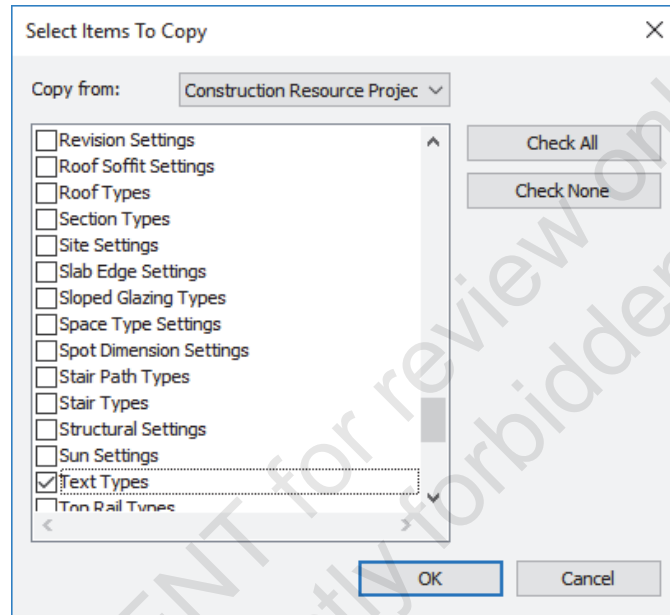

Figure 1–36
12. Click **Check None**, select **Text Types** (as shown in Figure 1–36), and click **OK**.